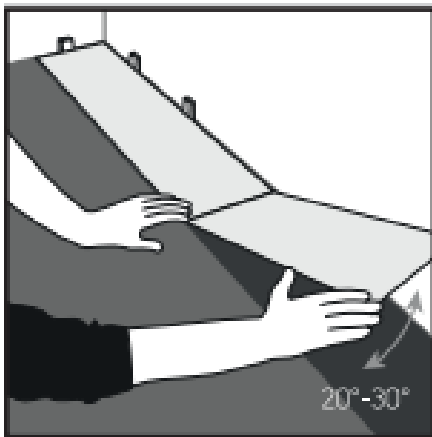

Figure 2
- 2) Install the first row, ensuring the short edges are clicked together (Fig. 2)